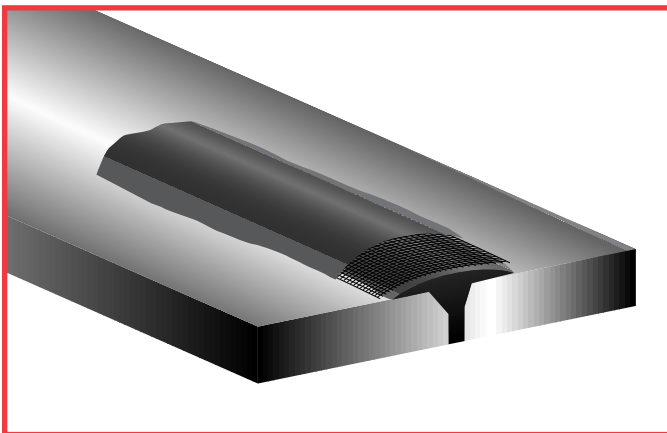

Figure 13. Over-coat the epoxy/tape application with another coating of epoxy.
- Apply another 1/16" to 1/4" (1.5 – 6 mm) of epoxy over the reinforced mesh and smooth out the epoxy. To prevent lifting of the repair, be sure to feather the edges in keeping with the contour of the repaired equipment. (See figure 13)